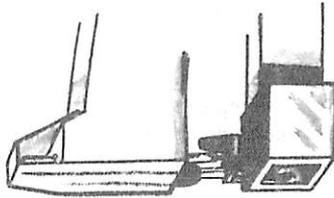

Figure No. 2
- Installation of any kind is not necessary. Merely arrange a box, shelf or bracket so that, between bags, operator can conveniently set machine down or hang it up. Do not operate machine from direct current (DC) or a 220 volt line unless machine has been specifically ordered for same. Use only 110 volt AC line.
- Keep machine well cleaned daily with Fischbein Cleaning Solvent, obtainable from the Dave Fischbein Company or any authorized representative. Wash out dirt as follows: Unthread needle. With machine running, dip portion shown, Figure No. 2, page 6, in three or four inches of solvent for about 10 seconds. Then, oil well according to paragraph No. 5. (Do not use gasoline or similar as a solvent.)